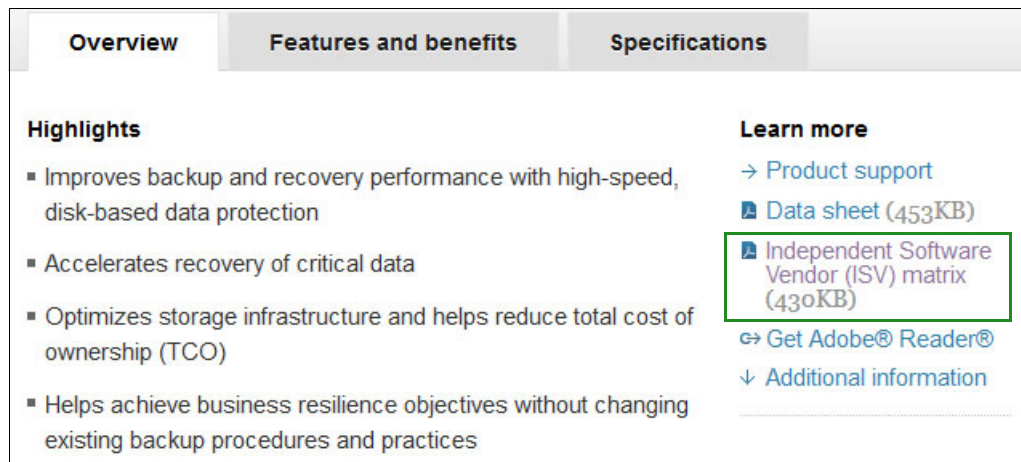

Figure B-3 ProtecTIER ISV support matrix link
3. Under Learn more (Figure B-3), click **Independent Software Vendor (ISV) matrix**.